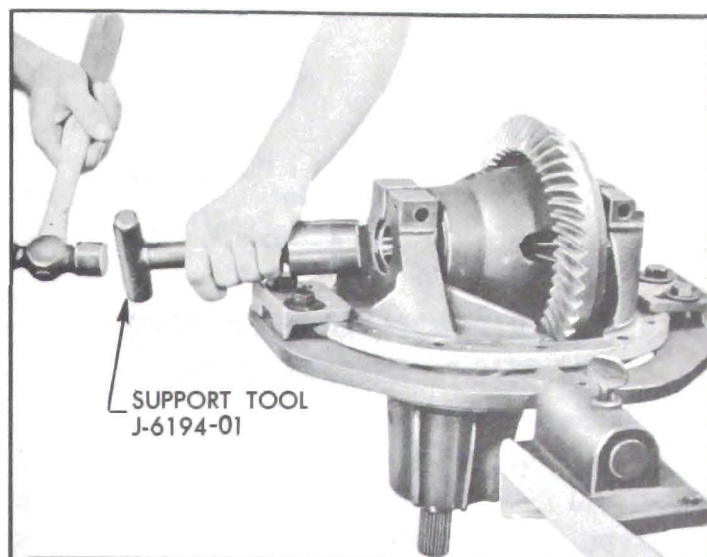

Figure 6-36—Installing Differential Bearing Supports
8. Lubricate support bushings with hypoid gear lubricant. Drive each differential bearing support into its pedestal until seated solidly in the bearing, using Support Tool J-6194-01. See figure 6-36. Tighten pedestal clamp bolts and nuts to 50-60 foot pounds. Secure nuts with cotter pins.